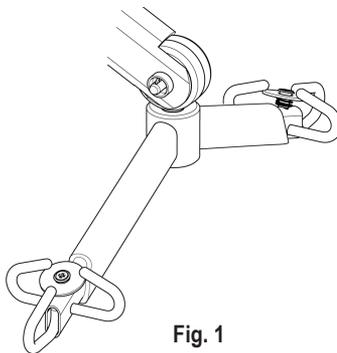

Fig. 1
3. Carefully, pull the pin out. This will free the spreader bar from the lift boom (Fig. 1).